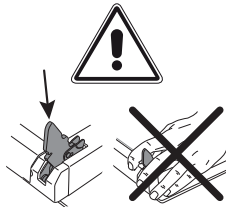

Figure 39
- Hold the door as shown in fig. 39.